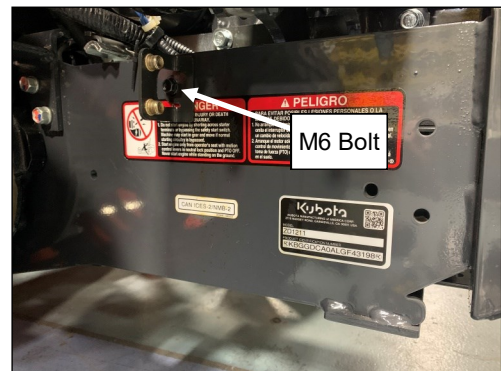

Fig. 9.2 (Install Front Shroud Bracket)
- 9.2 See fig. 9.2. Install the front shroud bracket oriented as shown so that the bolts for the shroud can be installed from the front. Secure to the pre-existing hole in the vehicle frame.